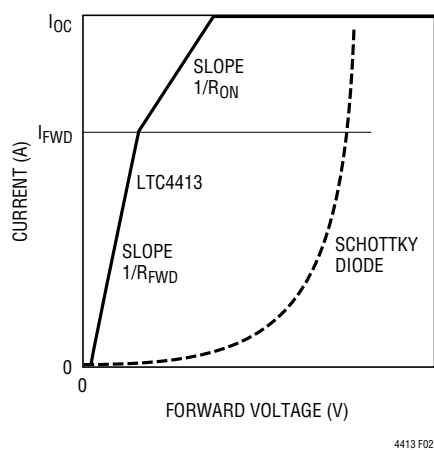

Figure 2
The LTC4413 is described with the aid of the Block Diagram (Figure 1). Operation begins when the power source at V_{INA} or V_{INB} rises above the undervoltage lockout (UVLO) voltage of 2.4V and either of the ENBA or ENBB control pins is low. If only the voltage at the V_{INA} pin is present, the power source to the LTC4413 (V_{DD}) will be supplied from the V_{INA} pin. The amplifier (A) will pull a current proportional to the difference between V_{INA} and V_{OUTA} from the gate (V_{GATEA}) of the internal PFET (PA), driving this gate voltage below V_{INA} . This will turn on PA. As V_{OUTA} is pulled up to a forward voltage drop (V_{FWD}) of 20mV below V_{INA} , the LTC4413 will regulate V_{GATEA} to maintain the small forward voltage drop. The system is now in forward regulation and the load at V_{OUTA} will be powered from the supply at V_{INA} . As the load current varies, V_{GATEA} will be controlled to maintain V_{FWD} until the load current exceeds the transistor's (PA) ability to deliver the current as V_{GATEA} approaches GND. At this point the PFET will behave as a fixed resistor with resistance R_{ON} , whereby the forward voltage will increase slightly with increased load current. As the magnitude of I_{OUT} increases further (such that $I_{LOAD} > I_{OC}$), the LTC4413 will fix the load current to the constant value I_{OC} to protect the device. The characteristics for parameters R_{FWD} , R_{ON} , V_{FWD} and I_{OC} are specified with the aid of Figure 2, illustrating the LTC4413 forward voltage drop versus that of a Schottky diode.